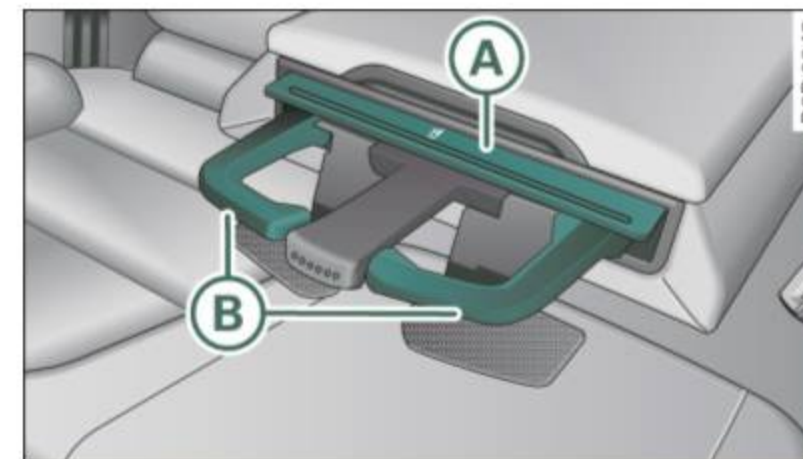

Fig. 91 Rear center armrest: cupholder extended
- Press both spots marked with  **A** ⇒ fig. 91 ⇒ . The holder extends.